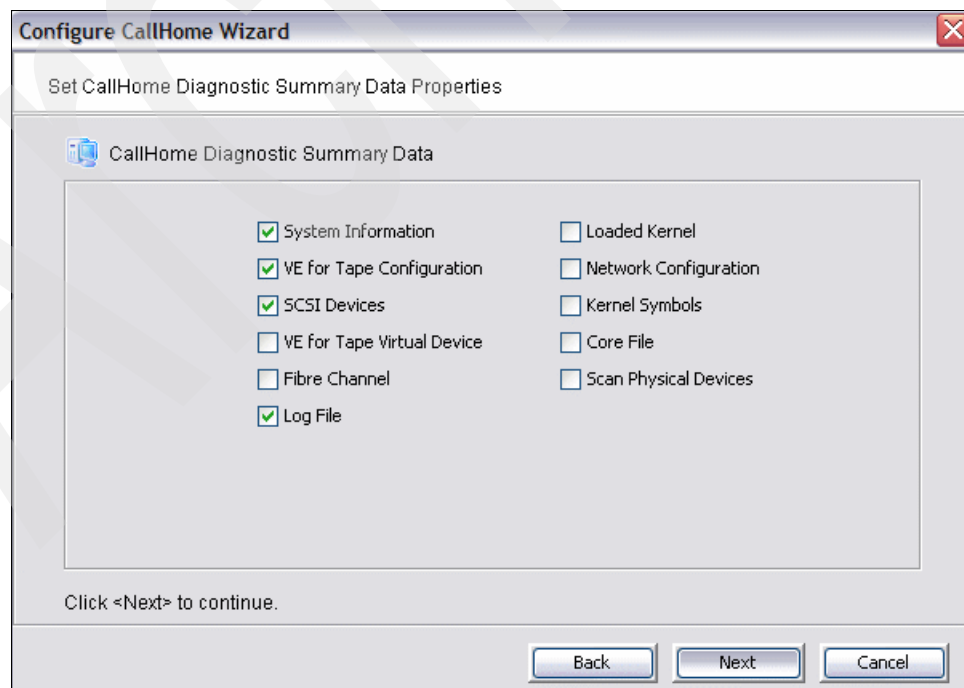

Figure 11-18 Diagnostic summary properties
- The next panel (Figure 11-18) allows you to select what data you would like captured as an attachment when the trigger is hit. Some of these items can be large, so it is best to experiment with the data that you wish to capture.